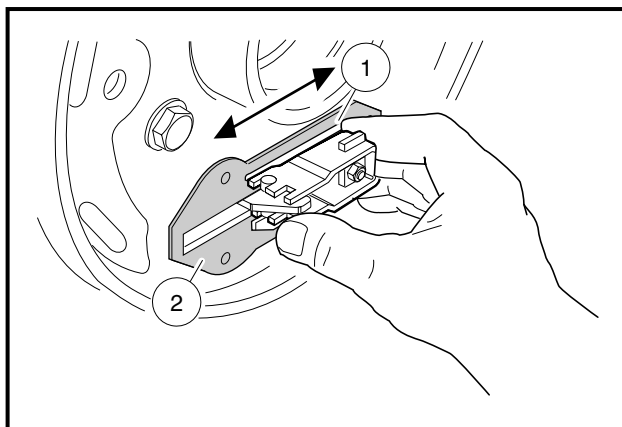

Figure 6-19 Lubricate Slide
3. Lubricate slide (1) and slide plate (2) with dry moly lubricant (CCI P/N 1012151) on both sides of the backing plate. After lubricating, work slide back and forth to ensure it slides smoothly and easily (**Figure 6-19, Page 6-9**). Reinstall rubber boot onto backing plate.